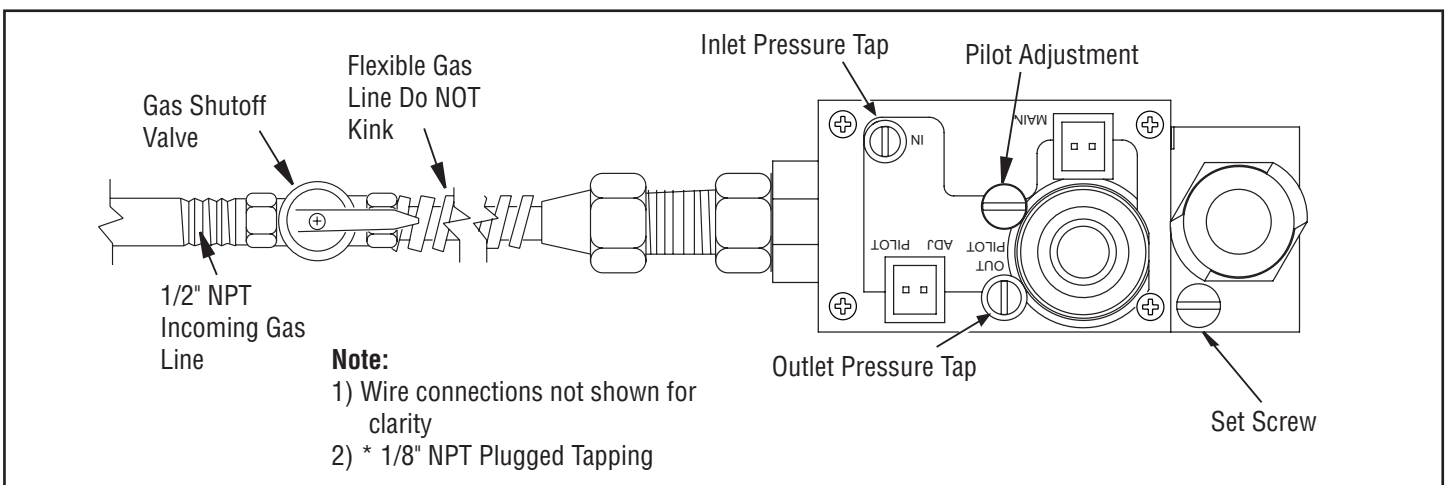

Figure 29 - Connecting Incoming Gas Line to Flex Gas Line
2. Attach flexible gas line from gas supply to control valve (see Figure 29).